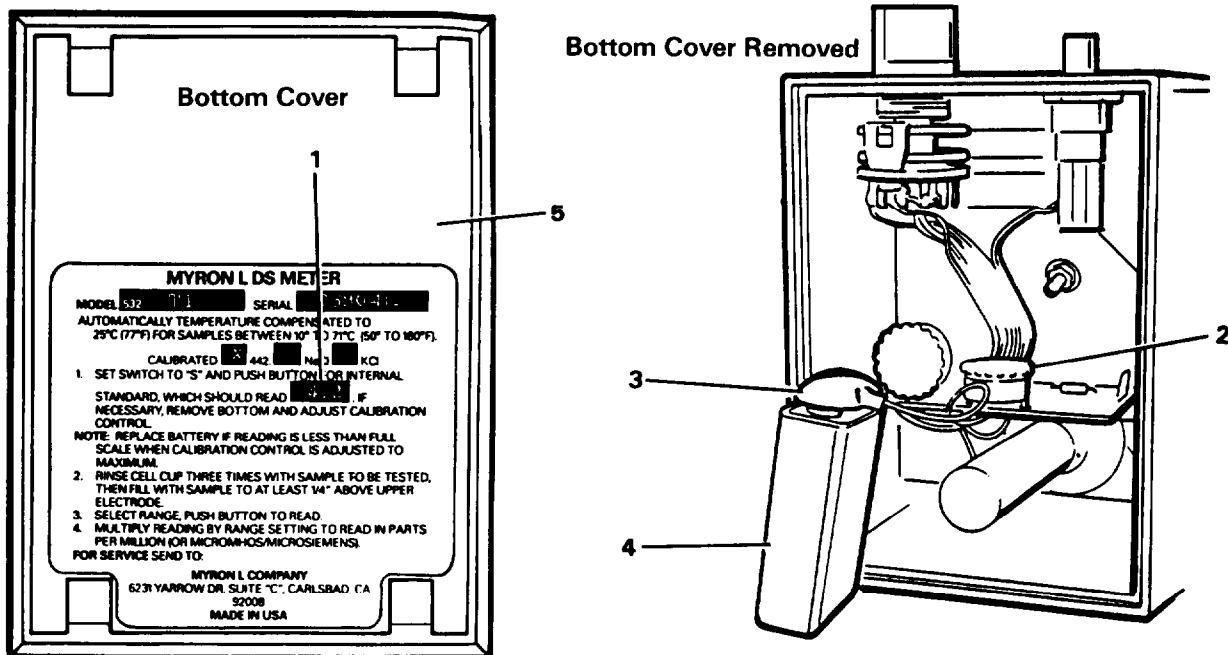

Figure 2-18. Bottom View of Portable TDS Meter
- (2) TDS meter should read the same as the internal standard reading (1, Figure 2-18) stamped on back of meter.
(4) At times the internal standard reading may differ from the stamped number on bottom of unit. If this occurs use the following procedures.
- (b) Unsnap bottom plastic cover (5) and note position of adjusting wheel (2, Figure 2-18).
- (e) Turn adjusting wheel (2, Figure 2-18) until correct internal standard reading is obtained.
(2) If the meter reading is less than internal standard at maximum setting of appropriate adjusting wheel, the battery may need to be changed. See Figure 2-18 and use the following procedure: